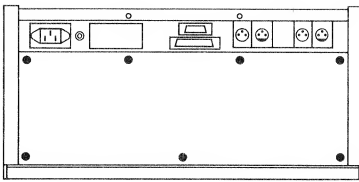

Fig. 2.2.-4
- Remove the six screws (fig. 2.2.-1) and take off the rear panel.
- Remove the two screws at the back and the three underneath (fig. 2.2.-2).
- Unscrew 6 screws at the rear and 2 screws above (fig. 2.2.-3).
- 7 Schrauben lösen (Fig. 2.2.-4).